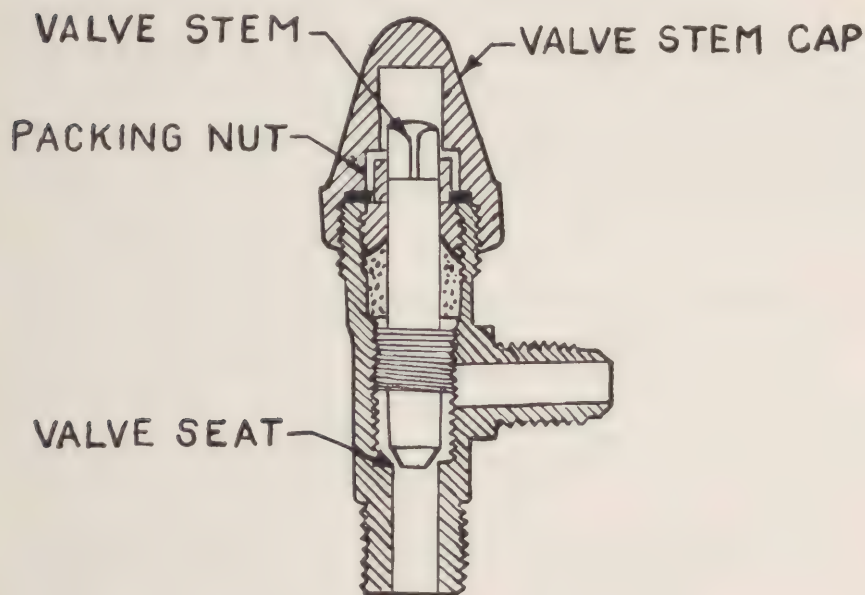

Figure 14. Liquid receiver valve.
**c. Liquid Receiver Valve.** The liquid receiver is equipped with a shutoff valve (fig 14) that seats or closes in one position. When the valve stem is turned all the way in (clockwise) the valve is closed. When the stem is turned all the way out (counter clockwise) the valve is open.